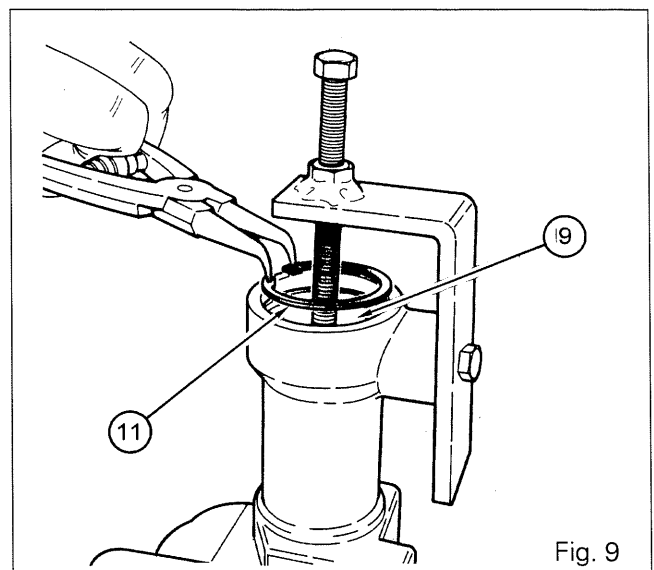

Fig. 9
1. Using the locally manufactured tool described in Part E, remove the circlip (11) and remove the plug (9) (Fig. 9) from assembly A. Remove the plug from assembly B in the same manner. Remove assemblies A and B, taking visual note of their positions.
2. Unscrew plug (1) and remove assembly C in the same way as in the previous operation.